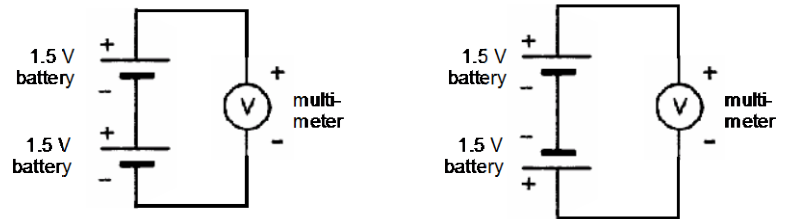

Figure 1-7.
* – Then connect the batteries in series, with forward polarity, as shown in Fig. 1-7 and measure the total voltage V_{meas}^f . Provide an uncertainty for this measurement based on the multimeter's specifications.
* – In both your notebook and lab report, you must always draw a schematic of whatever you connect, including components and any external instruments. For this step, the schematics should look like Fig. 1-7. (As you gain experience, you will learn how to draw schematics without being shown an example to copy.)